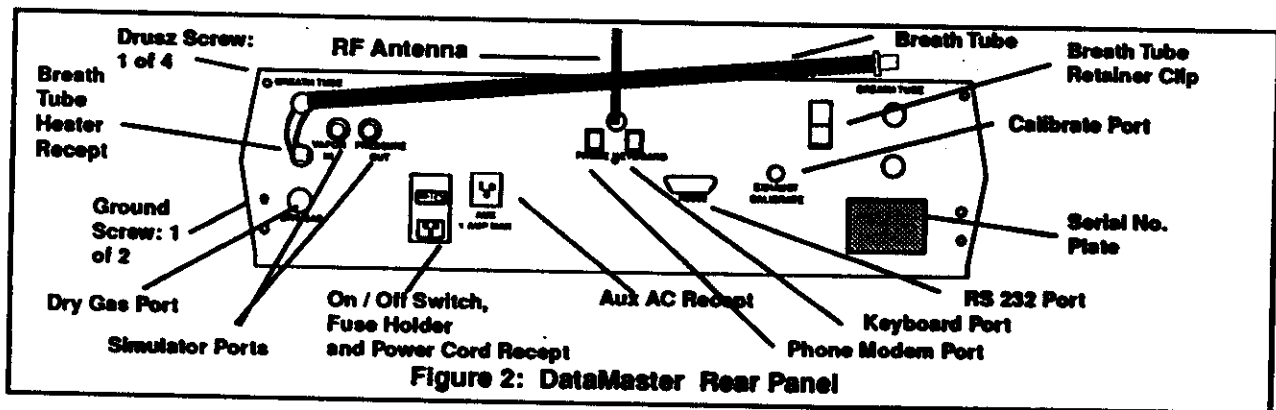

Figure 2: DataMaster Rear Panel
- B. Remove the RF Antenna, Breath Tube and Power Cord from the accessory bag. (Refer to Figure 2 "Rear Panel" for the following)
- 5. If your DataMaster is an Option "K" model, go directly to item 6 below. Locate the keyboard cable and plug one end into the port marked "Keyboard" on the rear panel of the DataMaster and the other end into the rear of the keyboard.